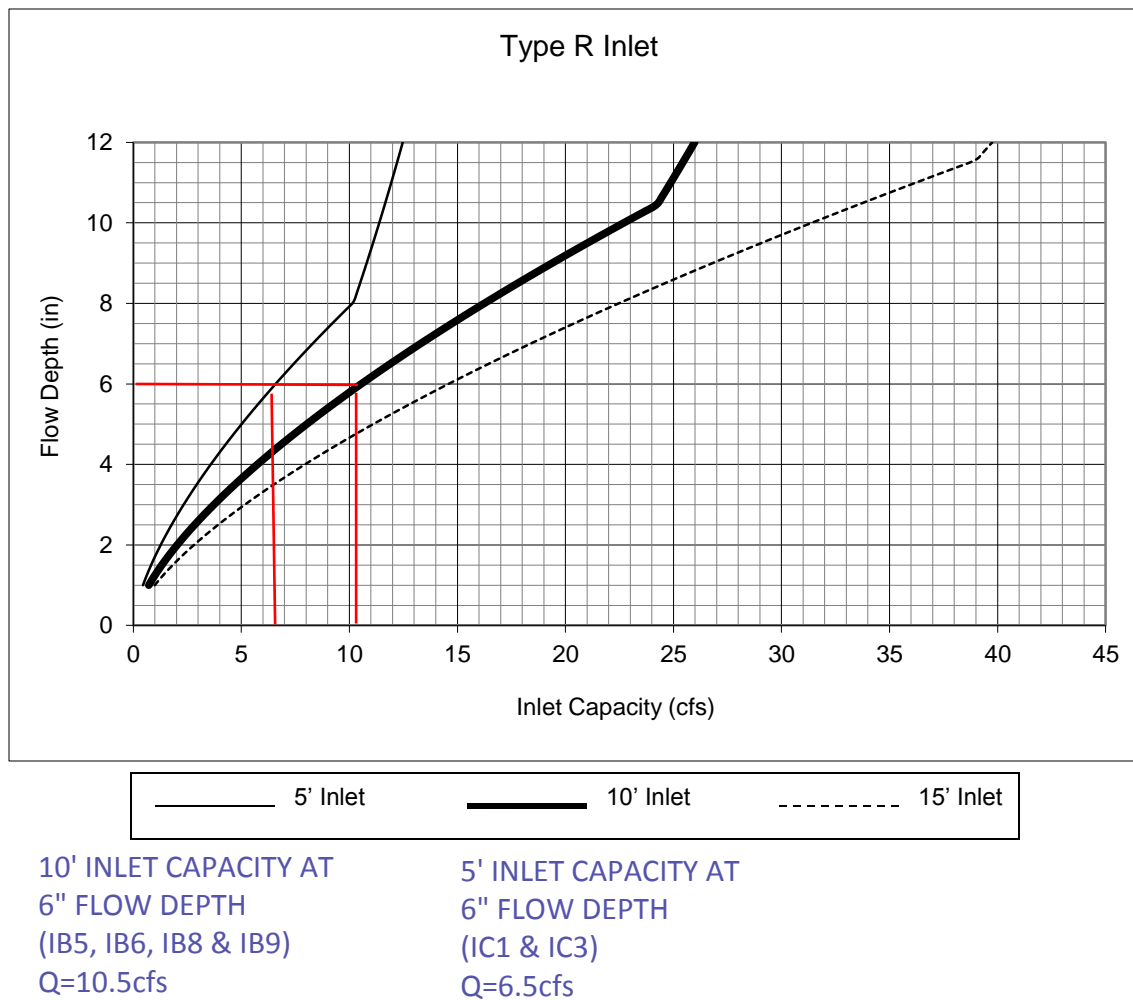

**Figure 8-7. Inlet Capacity Chart Continuous Grade Conditions, Residential (Local)**
**Inlet Summary (see figures 8-7, 8-10 & 8-11)**